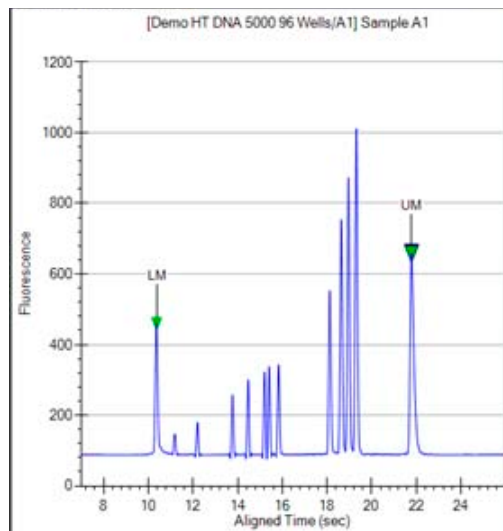

Figure 7. Markers - DNA
- 6 Two DNA fragments are run with each of the samples, bracketing the DNA sizing range. The **Lower Marker** and **Upper Marker** are internal standards used to align the ladder data with data from the sample wells. Figure 7 shows an example of assigned marker peaks in a sample well.